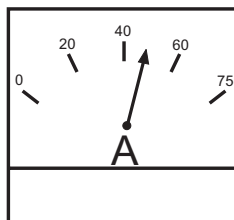

Figure 54. Ammeter (Load)
14. Observe at the generator's ammeter (Figure 54) and verify that it reads the anticipated amount of current with respect to the load. The ammeter will only display a current reading if the load is in use.